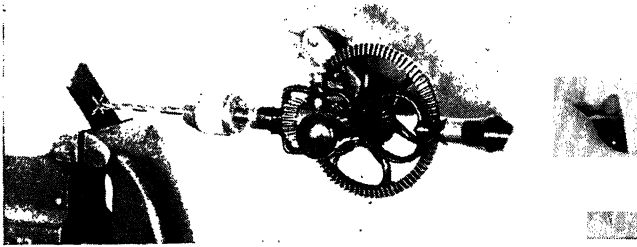

Fig. 77. Drilling with a hand drill
*Hand Drill* (see Fig. 77). A hand drill is used for drilling small holes, and is convenient in places where the brace might be awkward to handle.